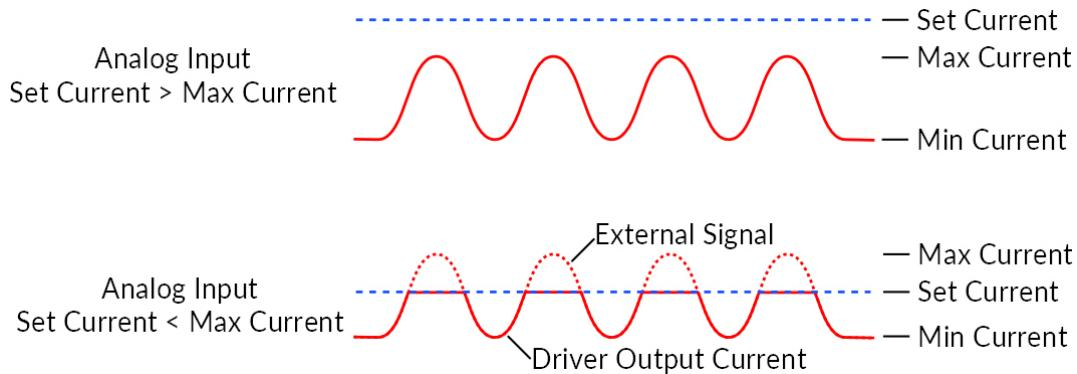

Figure 3.5: Driver and Light Source in External Analog Mode
- c) The **External Analog** mode (Fig. 3.5) is similar to the External TTL, except that the current will be set by the voltage on the BNC input (Fig. 3.5, top). On the input BNC, a maximum voltage signal corresponds to a maximum driver current. Should the current set on the light source be less than the maximum current, any voltage corresponding to a higher current will clip the output waveform (Fig. 3.5, bottom). To avoid any clipping of the output waveform, the maximum current setting must be equal to or greater than the corresponding maximum analog input voltage. See the corresponding light source manual to find the voltage/current relationship. This mode has no additional sequence options.